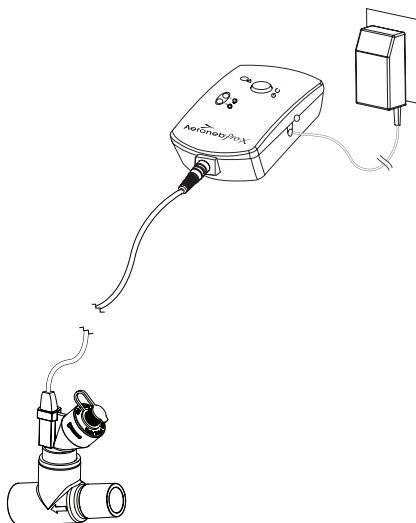

Figure 5: Connecting the Aeroneb® Pro-X AC/DC adapter
4. Connect the Aeroneb® Pro-X AC/DC adapter to the Aeroneb® Pro-X controller as shown in Figure 5.